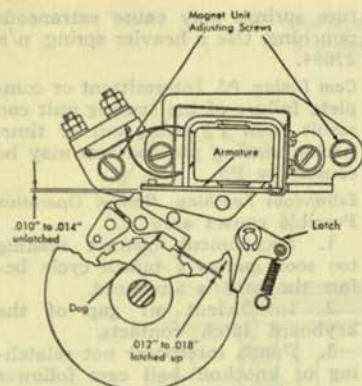

Figure 17. Feed Clutch Adjustment
3. The CF magnet unit is positioned to satisfy the following conditions (Figure 17):